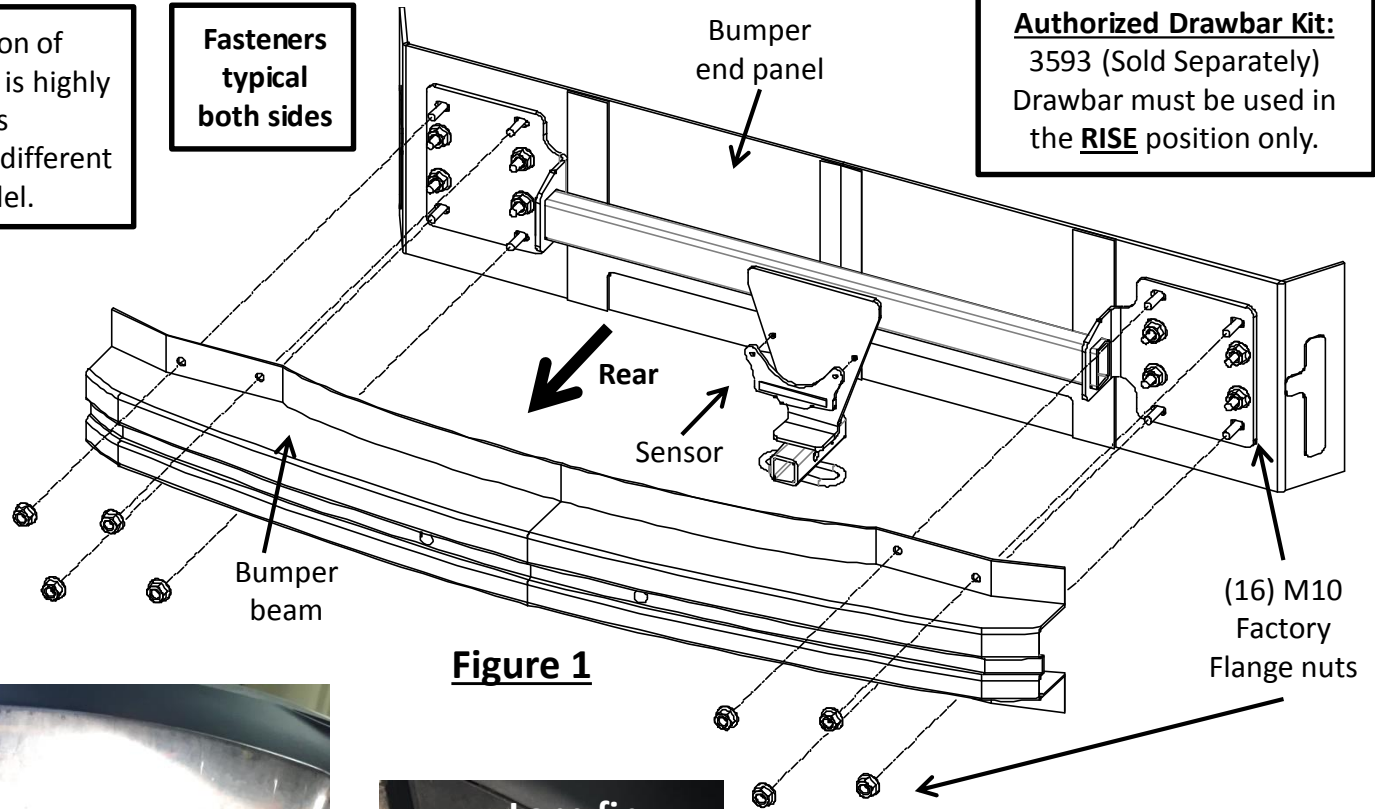
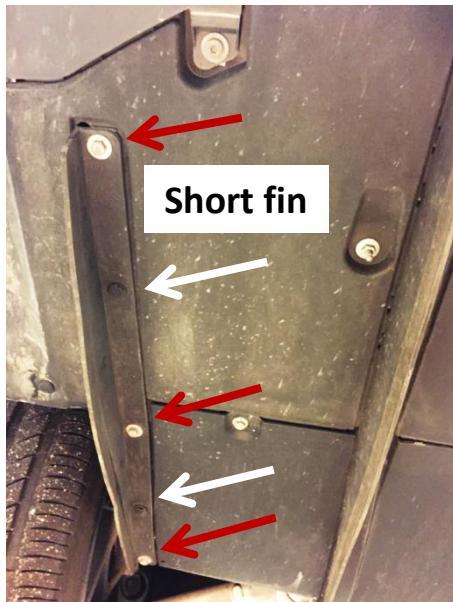

Figure 1
Figure 5
- 5. Fascia removal** - use plastic trim tools to remove the fascia starting at the outer edges near the wheel wells and gently pull the fascia. Disconnect wiring harness on passenger side if present, see Figure 5. Carefully set the fascia aside for reinstallation.
- 6. Bumper beam/Sensor removal** – (a) use 15 mm socket to remove (8) factory flange nuts from bumper beam and another (8) factory flange nuts from the bumper end panel. **NOTE: Some models might have 2nd layer of bumper beam inside. If it is present, remove it and return to vehicle owner.** (b) use 8 mm socket to remove the sensor located in the center of bumper end panel.
- 7. Hitch installation** – (a) raise the hitch into position and hang it on the studs on the bumper end panel. Torque (4) factory flange nuts to the middle studs each side. **Tighten CL 10 fasteners with torque wrench to 42 Lb.-Ft. (57 N*M).** (b) Reinstall the bumper beam to the hitch and bumper end panel. Loosely secure the rest of factory flange nuts to the bumper beam. See Figure 1. **Tighten rest of CL 10 fasteners with torque wrench to 42 Lb.-Ft. (57 N*M).** (c) Use cable ties ① to reattach the sensor to hitch center section, see Figure 1.
5. Fascia removal - use plastic trim tools to remove the fascia starting at the outer edges near the wheel wells and gently pull the fascia. Disconnect wiring harness on passenger side if present, see **Figure 5**. Carefully set the fascia aside for reinstallation.
6. Bumper beam/Sensor removal - (a) use 15 mm socket to remove (8) factory flange nuts from bumper beam and another (8) factory flange nuts from the bumper end panel. **NOTE: Some models might have 2nd layer of bumper beam inside. If it is present, remove it and return to vehicle owner.** (b) use 8 mm socket to remove the sensor located in the center of bumper end panel.
7. Hitch installation – (a) raise the hitch into position and hang it on the studs on the bumper end panel. Torque (4) factory flange nuts to the middle studs each side. **Tighten CL 10 fasteners with torque wrench to 42 Lb.-Ft. (57 N*M).** (b) Reinstall the bumper beam to the hitch and bumper end panel. Loosely secure the rest of factory flange nuts to the bumper beam. See **Figure 1. Tighten rest of CL 10 fasteners with torque wrench to 42 Lb.-Ft. (57 N*M).** (c) Use cable ties ① to reattach the sensor to hitch center section, see **Figure 1**